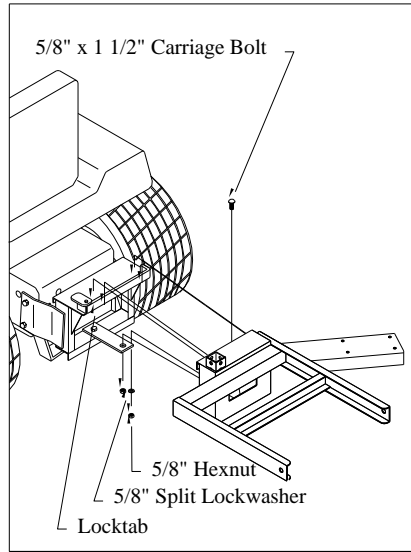

Fig. 2
2. Attach frame (1) onto hitch (29) by hooking lip of frame box onto lip of hitch and sliding the frame to the right or left until hole in bottom of hitch box aligns with hole in drawplate of the hitch installed in step 1. Secure with 5/8" x 1 1/2" carriage bolt, 5/8" split lock washer and 5/8" hex nut. Once secured, pivot lock tab over corner of lip on the frame (1) and tighten bolt. **(Fig. 2)**